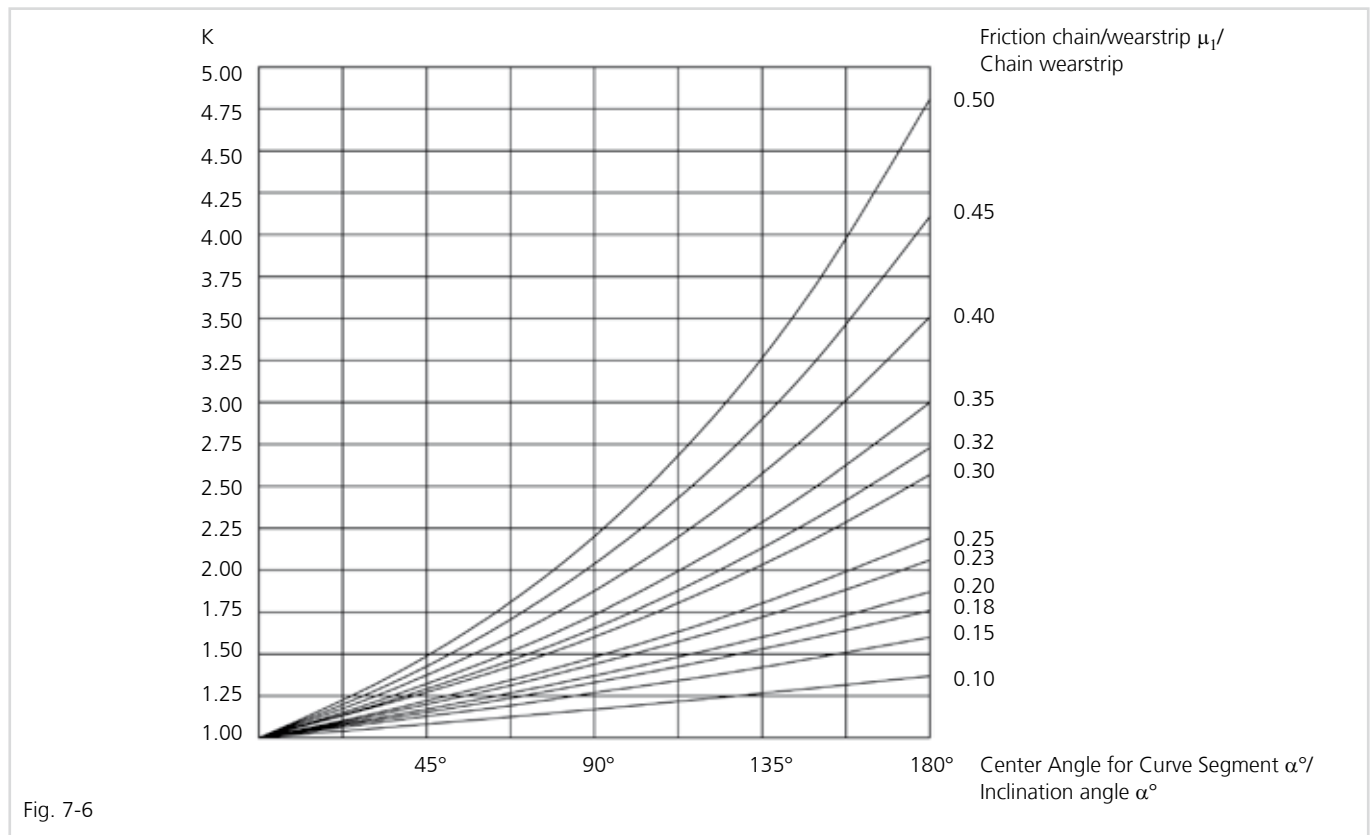

Fig. 7-6
Curve Factor (K)/Inclination Factor (K_{inc}) Fig. 7-6